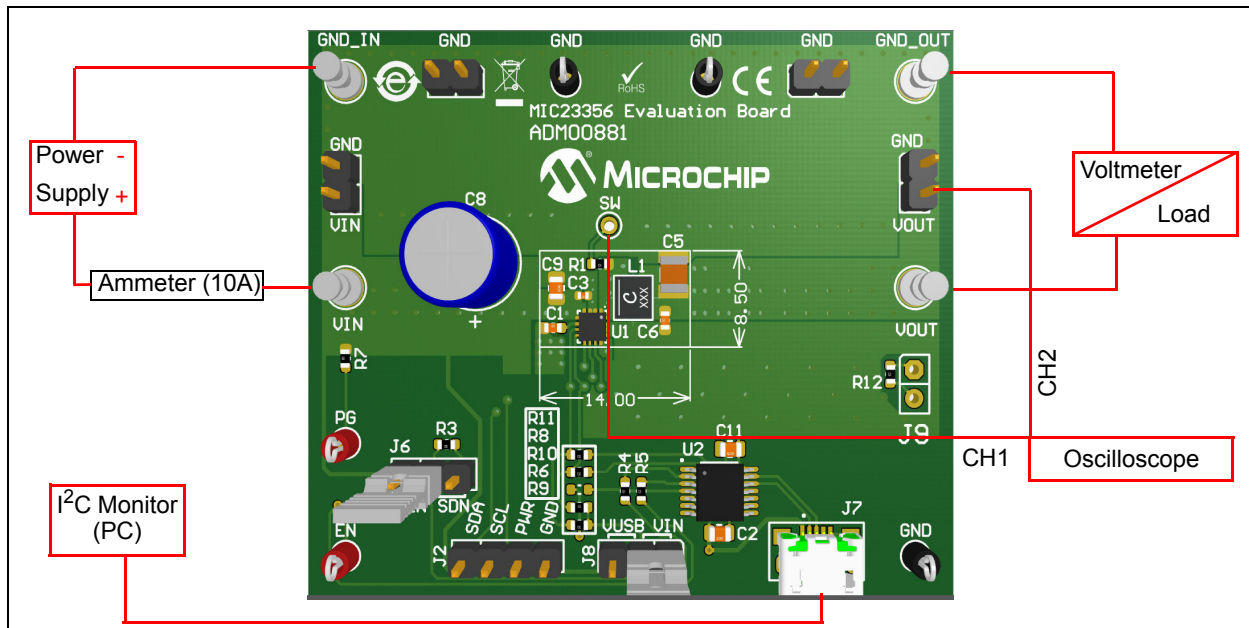

FIGURE 2-2: MIC23356 Evaluation Board Test Setup.
1. Connect the PC, input supply, voltmeter, ammeter and load as shown in Figure 2-2. Set the ammeter on a 10A range.
When testing the MIC23356 device at high-load currents or when checking the over-current protection behavior, it may be necessary to remove the series ammeter shown in Figure 2-2 or to replace it with a very low-value shunt resistor. This is because the internal resistance of many Digital Multimeters (DMMs) used for current measurements is generally too high.